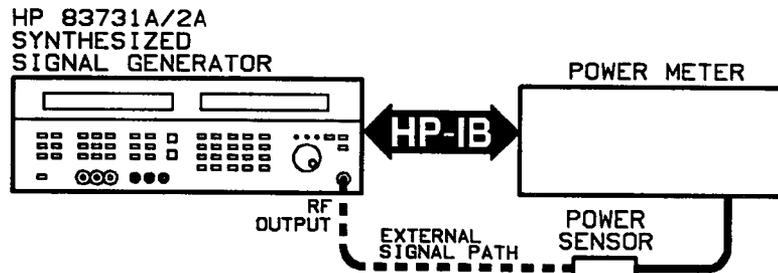

Figure 3-17. Level Correct Routine Equipment Setup
1. Connect the equipment as shown in Figure 3-17: